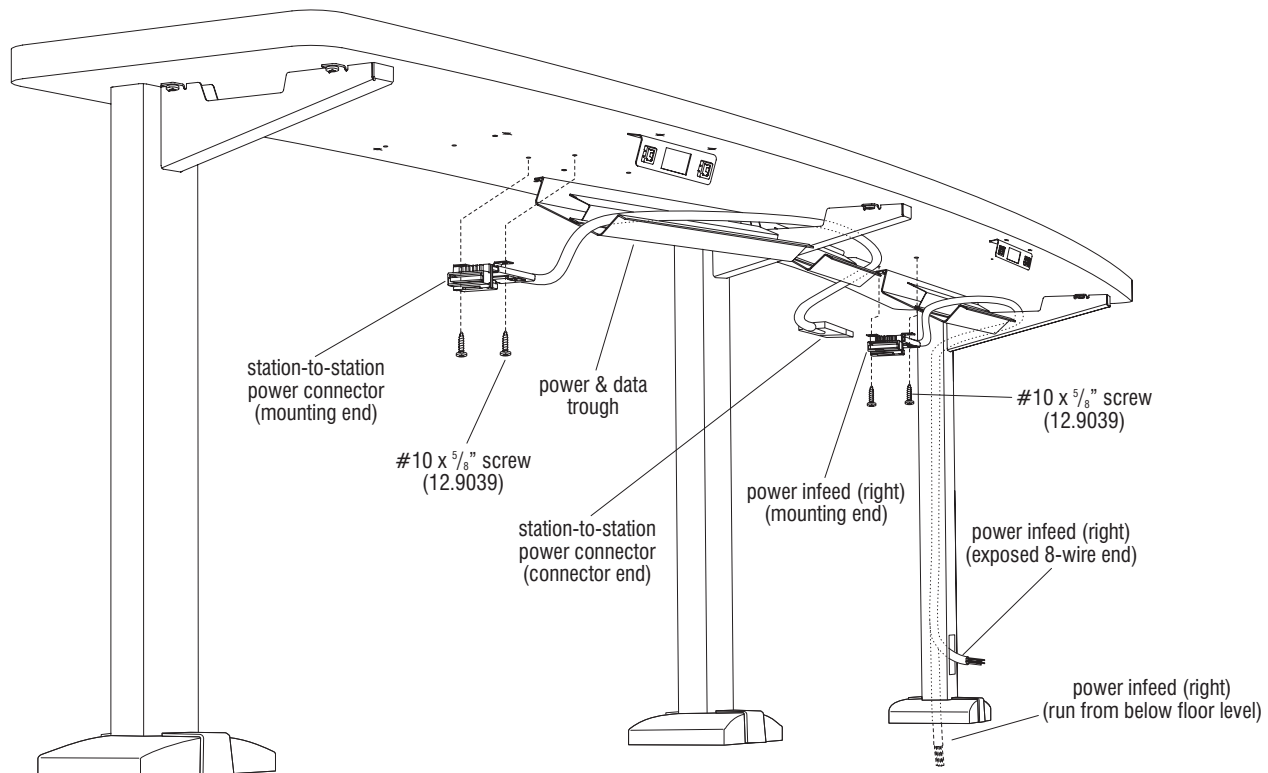
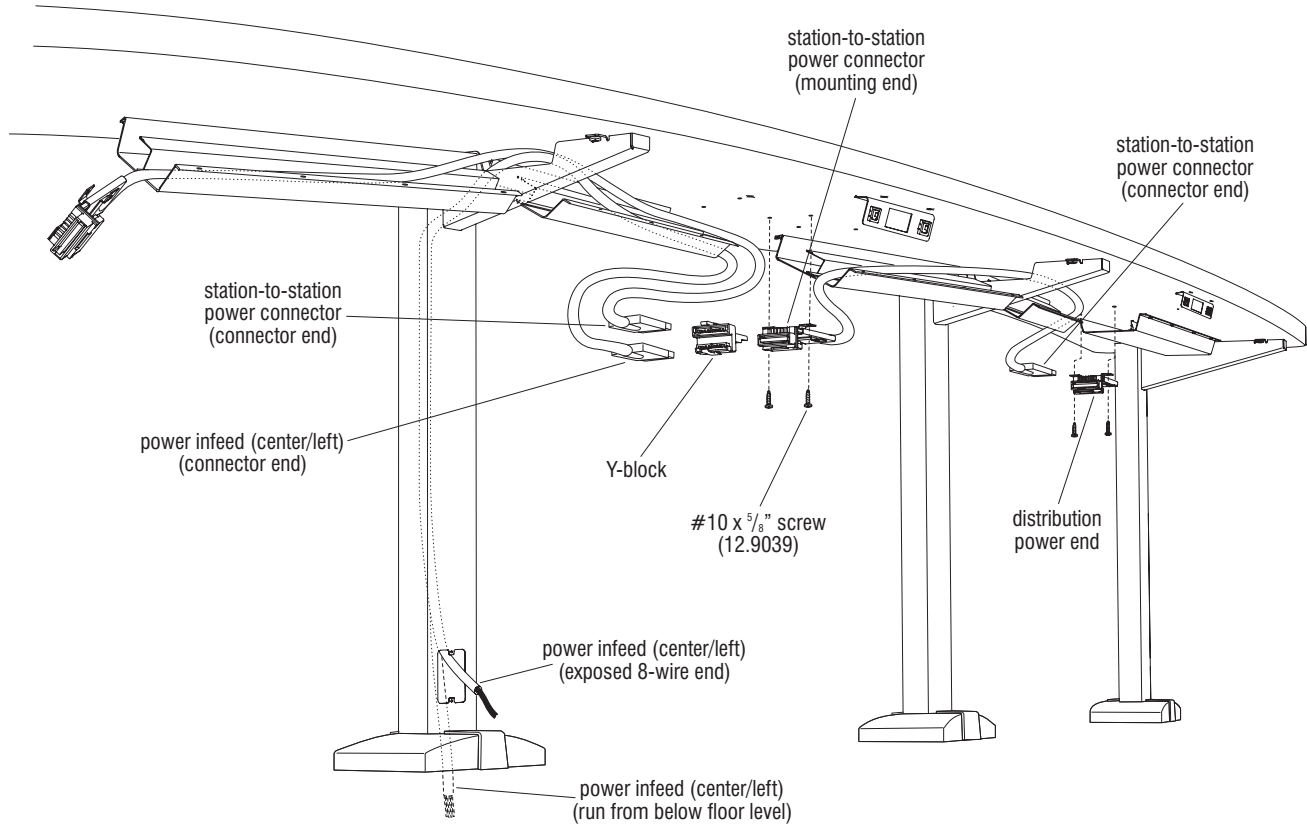

Figure 14
Figure 15
**Note:** Power infeeds for the Seminar Tables with Undersurface Power & Data may include one or more of the following: Right-hand (FP-PI) provides mounting for a receptacle and is to be fastened to the underside of the table top (Figure 14). Center/left-hand power infeed (FP-PI-LC) plugs into a Y-block, which is connected to a station-to-station power connector
that mounts to the underside of the table top (Figure 15). Carefully follow steps 28 through 30 for correct installation of components.
floor level (Figures 14, 15 or 16). Check the length of the conduit by verifying that both ends of the conduit will reach their desired connection points. Installations requiring electrical connections below floor level may be made at this time. **Only connect the 8-wire end to a dead power source.** Wiring that is routed through the lower wire access hole will be connected to the power source at a later time. For
**right power infeed**, attach the mounting end to the underside of the table top with two #10 x 5/8" screws at the pre-drilled holes. Torque screws to 25 in/lbs (Figure 14). For **center/left power infeed**, leave the connector end resting in the power & data trough until later when it will be connected to a station-to-station power connector via a Y-block (Figure 15).
29. Select the appropriate length station-to-station power connectors per the space-planning layout. Route the connector end through the rear partition of the power & data trough, the cutout in the column support arm and the opposite power & data trough. Plug the connector end directly into a station-to-station power connector or **right power infeed** (mounting end). Attach the mounting end of the station-to-station power connector to the underside of the table top at the pre-drilled holes with #10 x 5/8" screws (Figures 14
& 15). Torque screws to 25 in/lbs. For **center power infeed**, plug the connector end of the infeed into a Y-block and attach the Y-block to the mounting end of the station-to-station power connector. The power feeds in toward the right, but continues on to the left with the Y-block in place (Figure 15). For **left power infeed** installations, the Y-block is not required because the power does not continue to the left. At the right side, end-of-run electrical, the last station-to-station power connector (connector end) will plug into a distribution
power end. Mount the distribution power end to the table top at the pre-drilled holes using #10 x 5/8" screws torqued at 25 in/lbs (Figure 15).